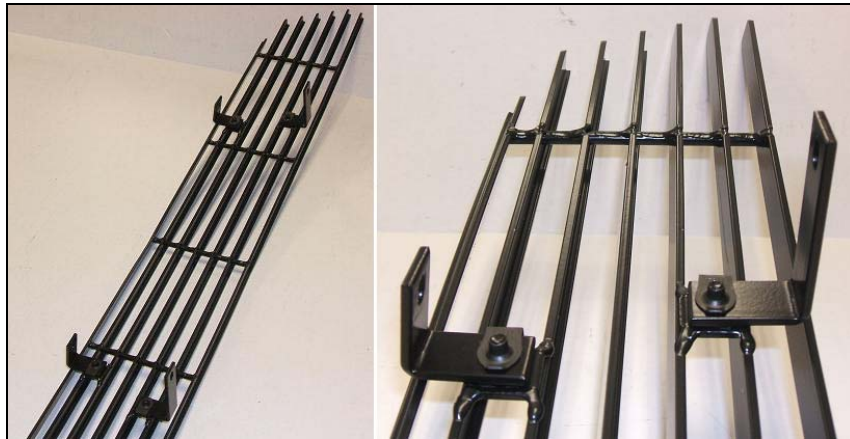

Figure 14
19. Install the two (2) Short L Brackets to the upper mounting holes as shown in Figure 14. Do not tighten the screws at this time.
20. Install the two (2) Long L Brackets to the lower mounting holes as shown in Figure 14. Do not tighten the screws at this time.